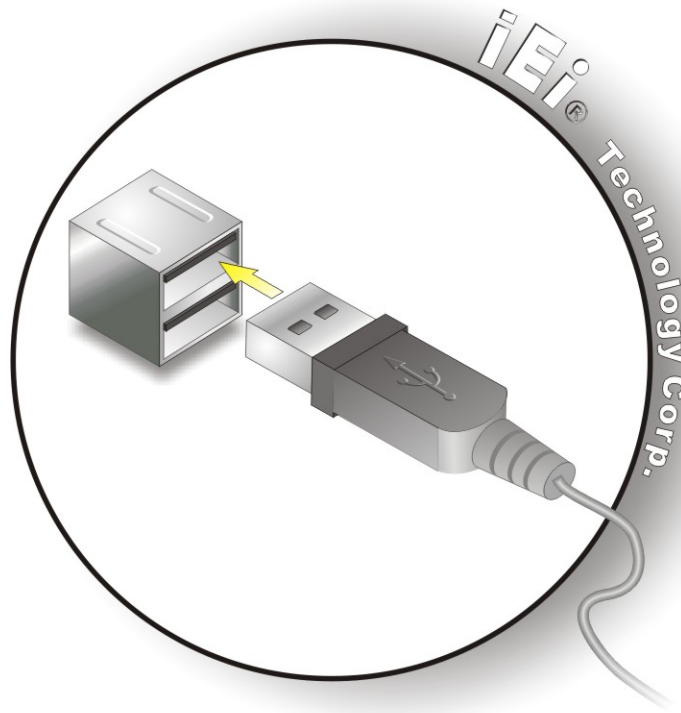

Figure 3-26: USB Device Connection
Step 2: Align the connectors. Align the USB device connector with one of the connectors on the AFL2-15A-H61. See **Figure 3-26**.